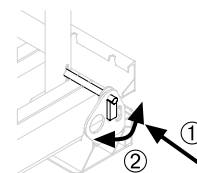

Fig. A1.07
5. Insert bolts and secure by screwing them in. (Fig. A1.07)